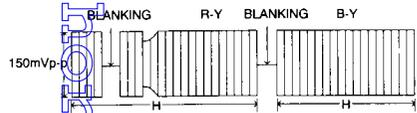

Figure 14
- Adjust PL9 so that the amplitude of the difference signal may be flat during two line scanning period closed as shown in figure 14.